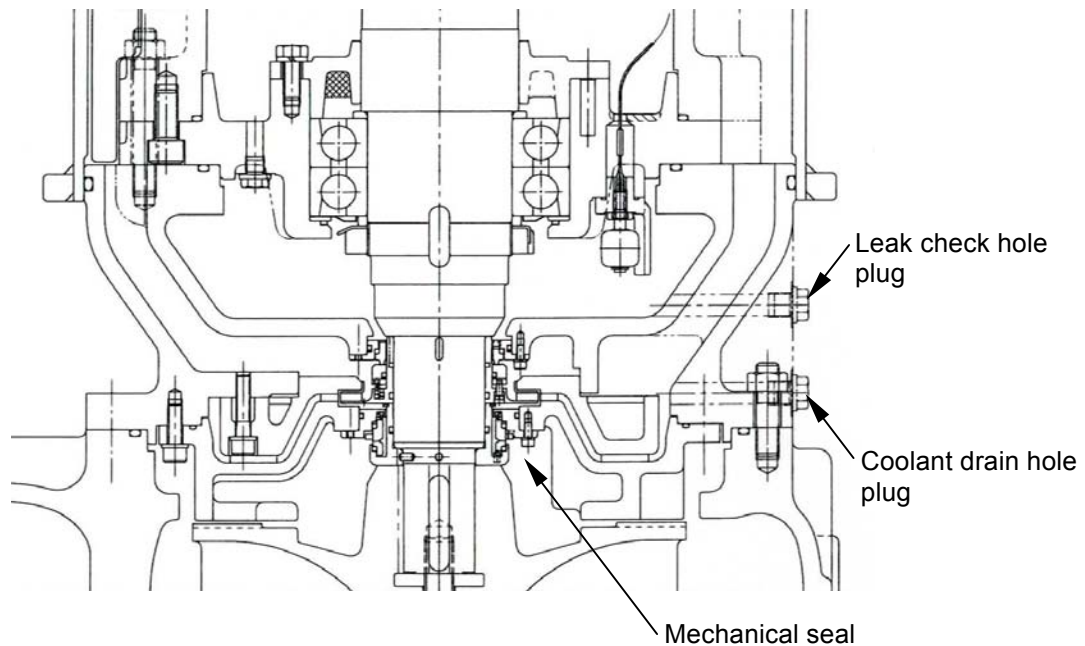

Fig. 20c
**\*ICS opt.** (3) Mechanical Seal (lower)
- (a) Unplug “Coolant drain hole” (shown in Fig. 20c) and “Air vent” (shown in Figs. 7c and 8c) and drain all internal coolant. (Refer to “Changing Coolant”, **\*ICS opt.** Para 6.6).
Stand the pump in a vertical position, and unplug “Coolant drain hole” (shown in Fig. 20c) and “Air vent & full level check hole” (shown in Figs. 7c and 8c). Drain all the coolant from “Coolant drain hole”.